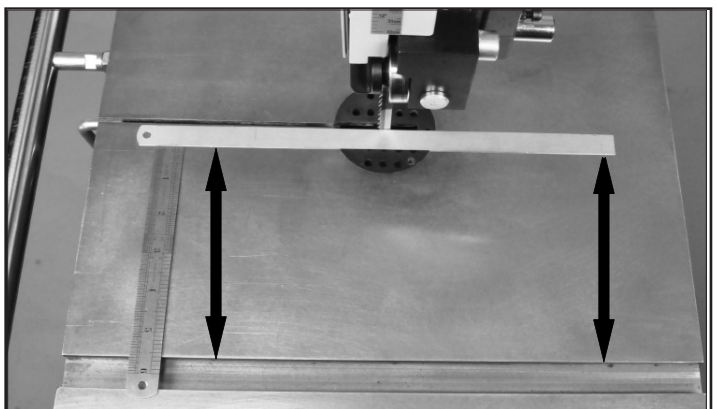

FIGURE 4
**NOTE:** Before finally secured in position, the table can be slightly moved, left and right. Check to make sure that the table's miter gauge slot is parallel to the side of the saw blade. This will provide a true cut when ripping stock. Set a thin metal ruler against the side of the saw blade. Make sure that it is not touching the saw's teeth, which can angle the ruler. Measure the distance from one end of the ruler to the miter gauge slot. FIG. 4. Then measure the same distance from the other end of the ruler to the miter gauge slot. Compare these two measurements and angle the table as necessary until the distances are the same.